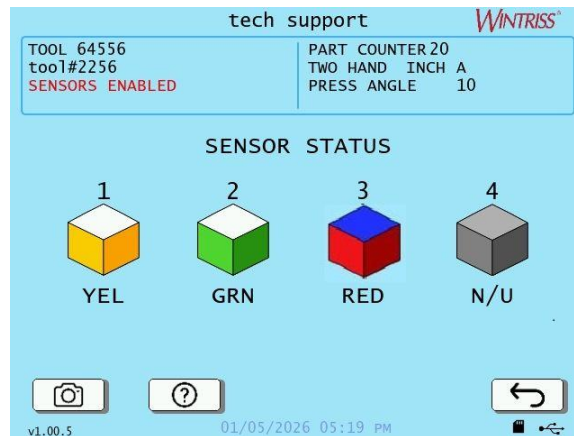

Figure 5-5. Die Protection Sensor Status Screen
- **Sensor Status:** Press VIEW SENSOR STATUS. The sensor status screen appears, Figure 5-5.